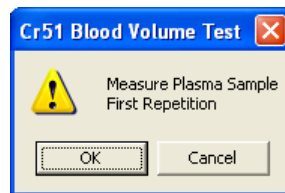

Figure 10-63
8. The screen appears as shown in Figure 10-63, prompting you to measure the patient plasma sample